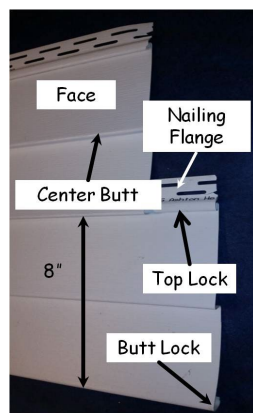

Figure 11-13. Siding Nomenclature.
- As shown in Figure 11-13, the butt lock of each course locks into the top lock of the course below.
- On the 8s: The visible portion of each siding course is 8” high (see Figure 11-13). For each new course, snap the butt lock onto the top lock of the previous course along the entire piece. Nail the ends and middle, then measure up from the BOTTOM of the first course to the BOTTOM of the course being installed. Each